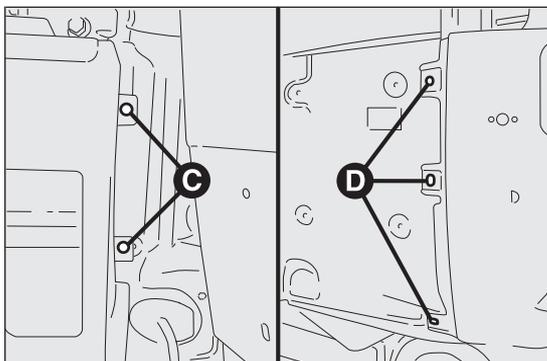

fig. 202
- unscrew both fastenings C fig. 202 on the side of the rear swing door, accessible by opening the door slightly;
- unscrew the three side fastenings D on the side of the panel, accessible after removing the side moulding fig. 202. To remove the moulding, unscrew the three lower self-tapping screws and detach the pins carefully to avoid breaking them. If one or more pins are broken, they will have to be replaced;